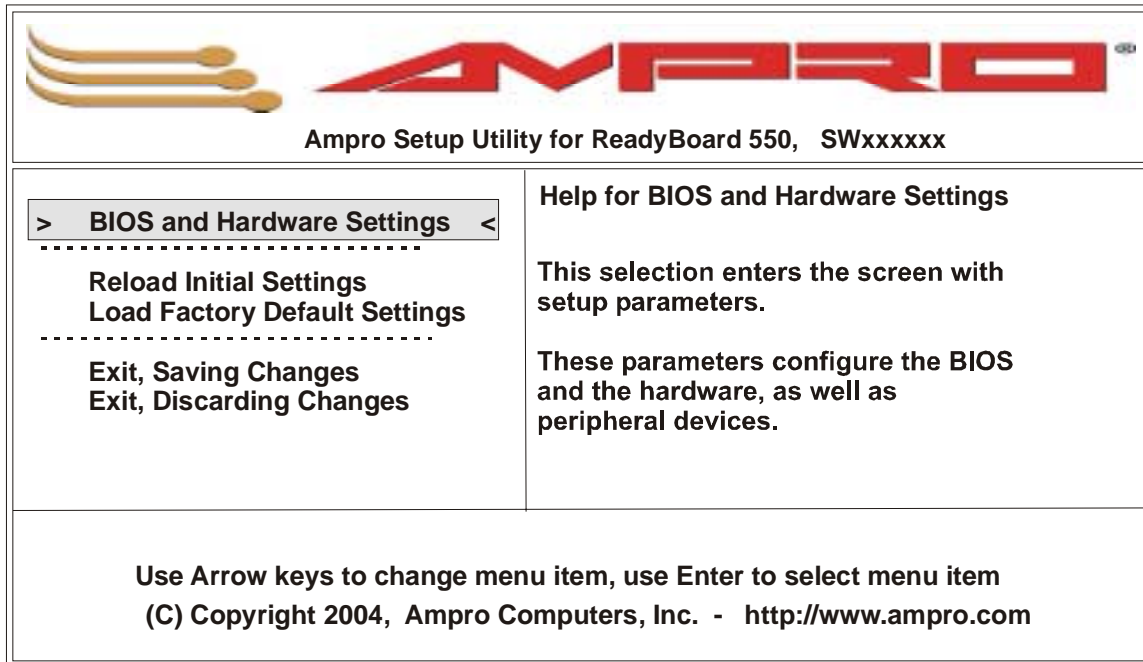

Figure 4-1. Opening BIOS Screen
3. Use the <Enter> key to select the screen menus listed in the Opening BIOS screen. See Figure 4-1.
5. Use the <Enter> key to select the screen menus listed in the Opening BIOS screen. See Figure 4-1.